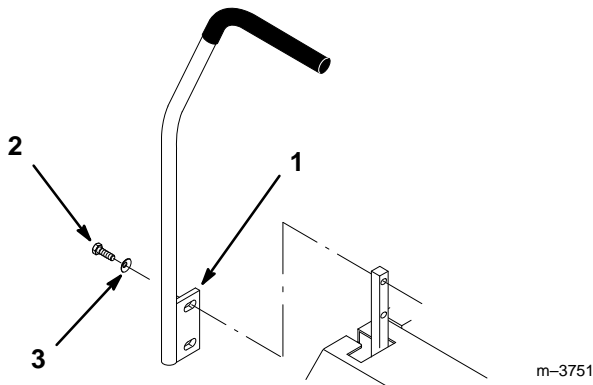

Figure 3
9. Remove the (4) 3/8–16 x 1" (26 mm) bolts and (4) 3/8 spring washers which attach the motion control levers to the control arm shafts for shipping (Fig. 3).
10. Place the levers (with the mounting plate towards the rear) on the outside of the control arm shaft and secure with (4) 3/8–16 x 1" (26 mm) bolts and (4) 3/8 spring washers (Fig. 3).
12. Align the front/rear position of the levers, with each other, in the neutral position. Loosen hardware and adjustment by sliding/tilting the lever(s) forward or backward until properly aligned (Fig. 3).